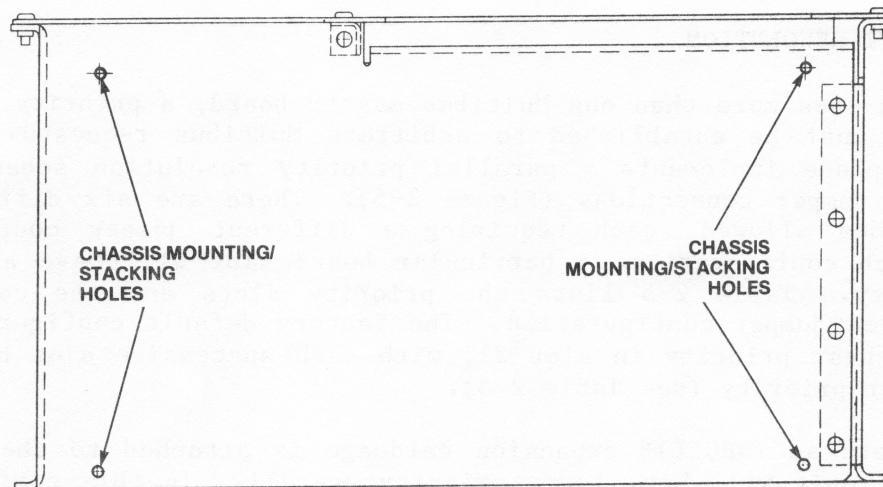

Figure 2-3. Chassis Mounting/Stacking Holes
mounting purposes (see Figure 2-3). When an iSBC 608 Cardcage is attached to an iSBC 618 Expansion Cardcage the stacked pair may be used with the mounting rails for installation in an EIA compatible (19-inch) rack. See section 2-10 for stacking instructions.
- d. Install the four 8-32 screws as shown in Figure 2-3, and tighten.